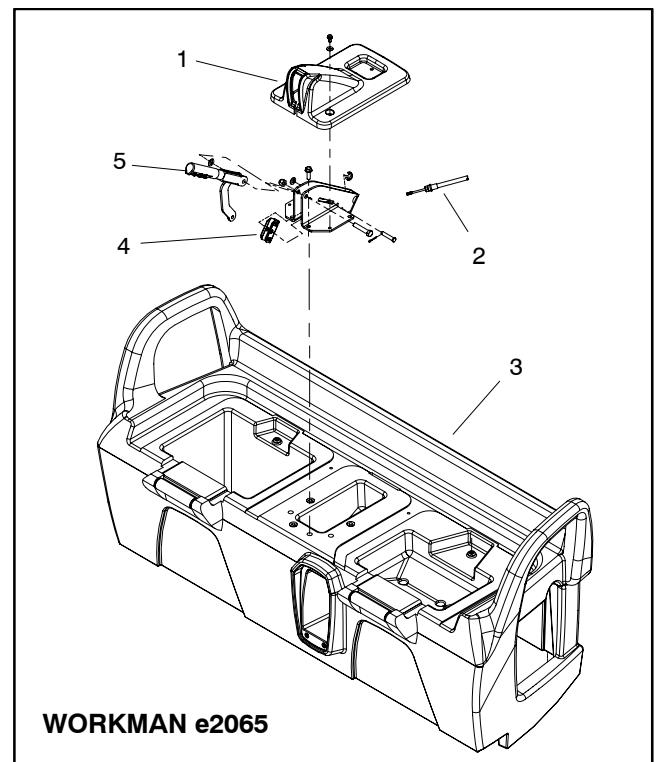

Figure 13
4. Remove four (4) screws (item 12) that secure receptacle plate to front of seat base. Unplug charger wire harness from vehicle wire harness and remove receptacle plate assembly from vehicle.
5. On Workman e2065, remove parking brake assembly from seat base (Fig. 13) (see Parking Brake (Workman e2065) in the Service and Repairs section of Chapter 4 – Transaxle and Brakes).
6. Remove eight (8) flange head screws (item 10) that secure seat base to vehicle. Locate and retrieve flat washers (item 11) from screws that secure front of seat base.